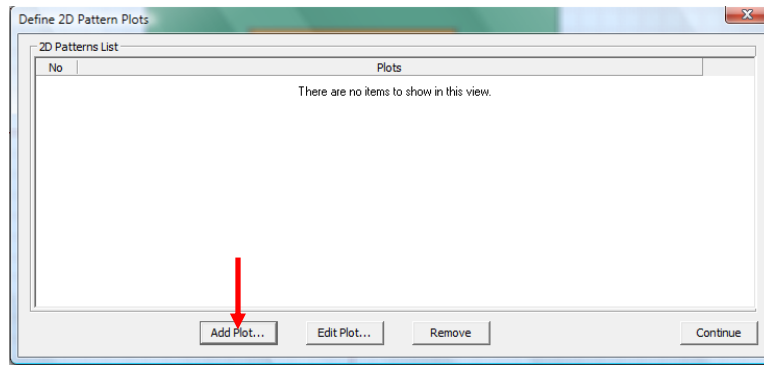

Fig. 27: Define 2D pattern plots
Repeat the procedure to launch a new simulation to get a new set of antenna gain, S11 and Z11 (Refer to Fig. 15.3, Fig. 12.3, and Fig. 12.1). Fig. 27 shows the S-parameter and Z-parameter of the antenna.
- >> Click Add Plot (Refer to Fig. 27 below)